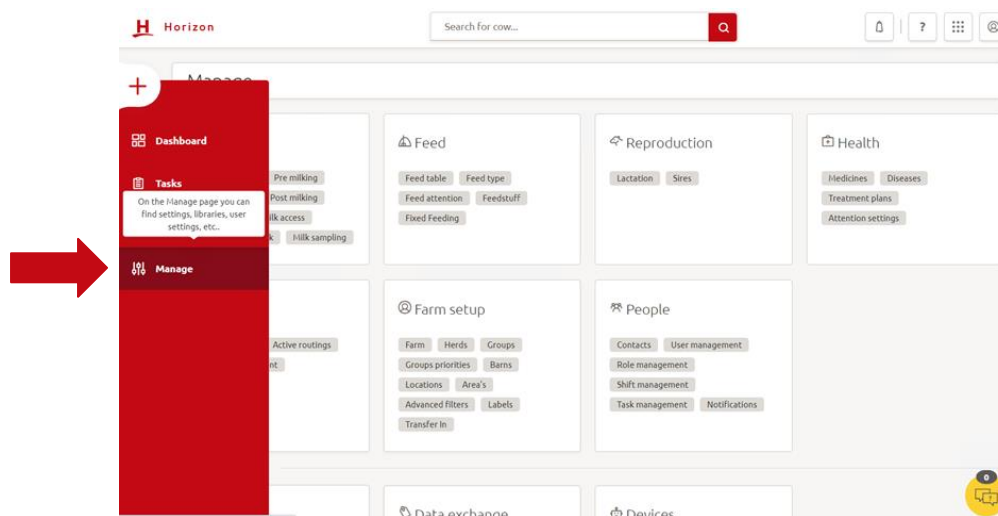

Figure 43. Select Manage
1. Click on Manage in the left bar, see figure 43